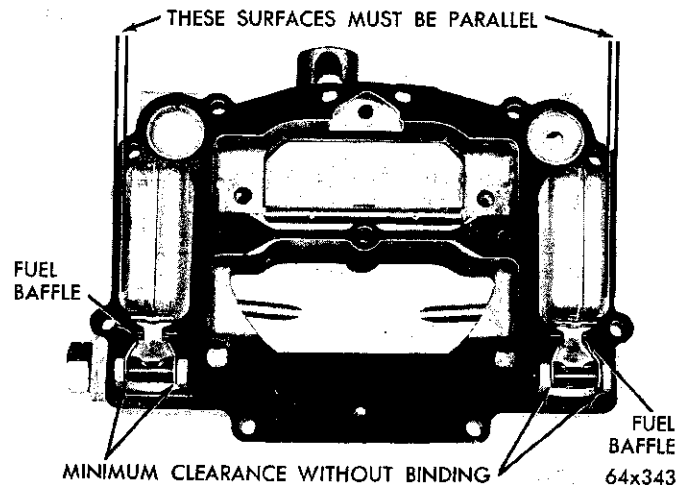

Fig. 15—Measuring the Float Alignment
(1) Sight down the side of each float shell to determine if the side of the float is parallel to the outer edge of the air horn casting, as shown in Figure 15.
(2) If the sides of the floats are not in alignment with the edge of the casting, bend the float lever by applying pressure on the end of the float shell with the fingers, while supporting the float lever with the thumb. To avoid damage to the float, apply only enough pressure to bend the float lever.
(3) After aligning the floats, remove as much clearance as possible between the arms of the float lever and the lugs on the air horn. To do this bend